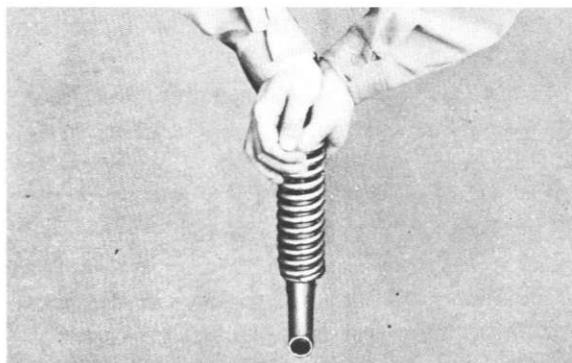

Fig. 5-9-2
- 2) Depress the rear shock absorber as shown in Fig. 5-9-2, and release it. If the shock absorber quickly returns halfway and then slowly returns to the fully extended position, the rear shock absorber is in good condition. But if the shock absorber quickly returns to the fully extended position, check the shock absorber for very noticeable oil leakage, and replace the whole assembly if the oil leaks.